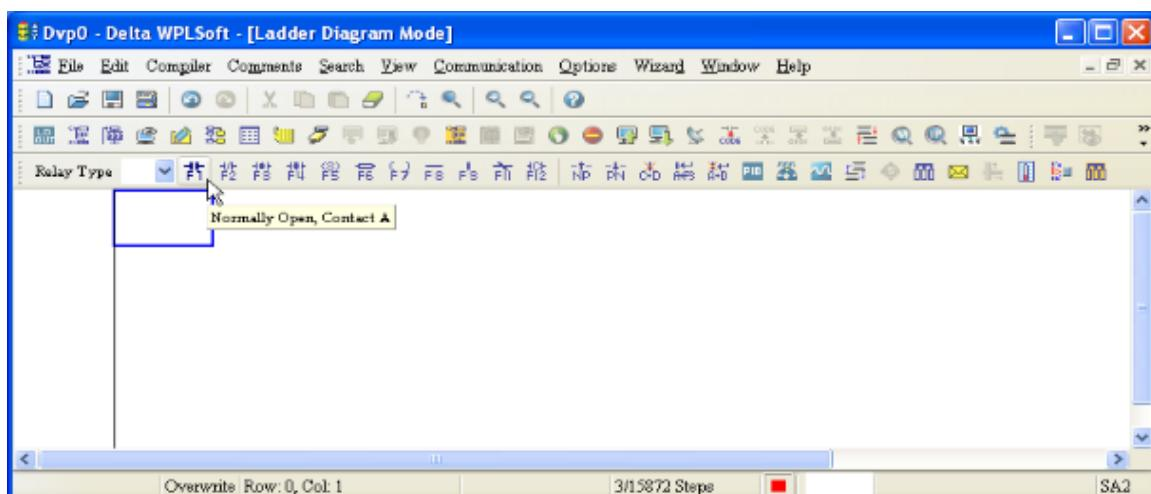
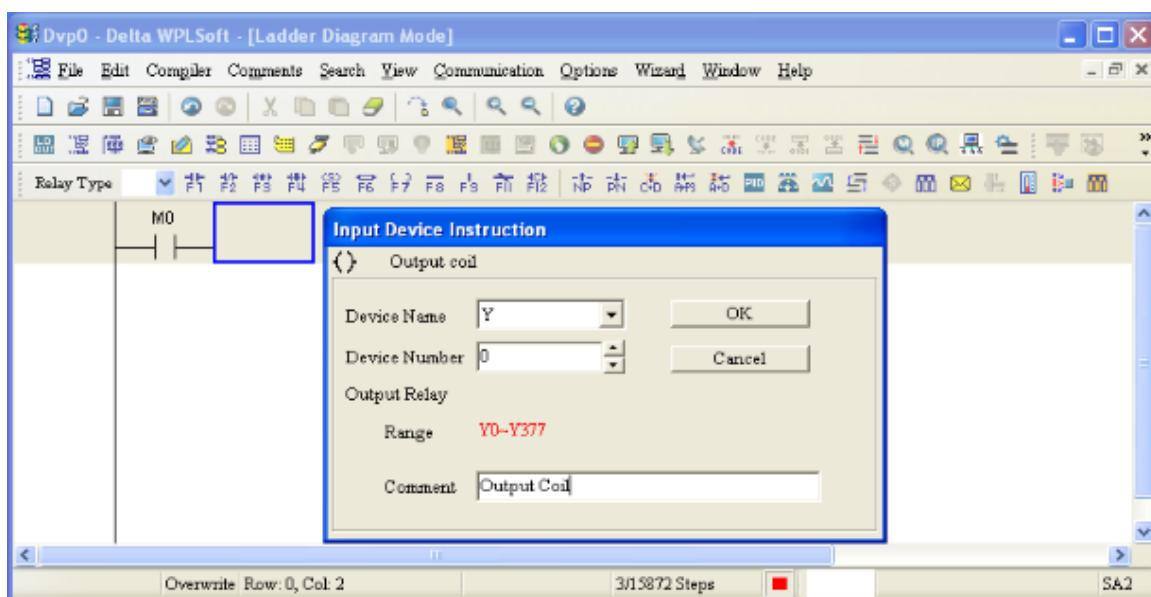

Figure 16-21
Figure 16-22
Step 3. Add an output coil. Click the output coil button or press F7. In the **Input Device Instruction** dialog box, select the device name (such as **Y**), the device number (such as **0**) and enter comments (such as **output coil**). Click **OK** when finished. (See Figure 16-21 and Figure 16-22.)